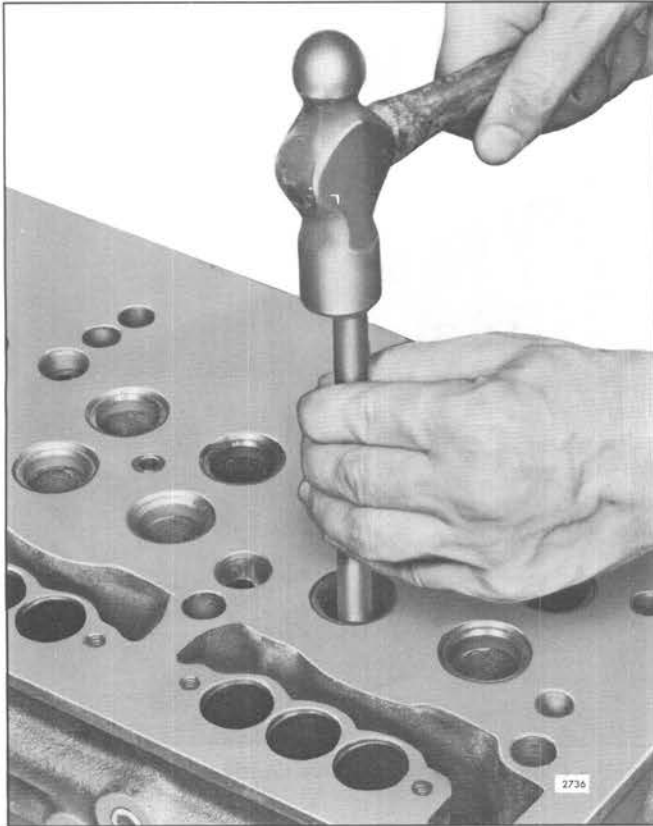

Fig. 6 – Removing Exhaust Valve Guide with Tool J 6569
3. Drive the valve guide out of the cylinder head with tool J 6569 (Fig. 6).